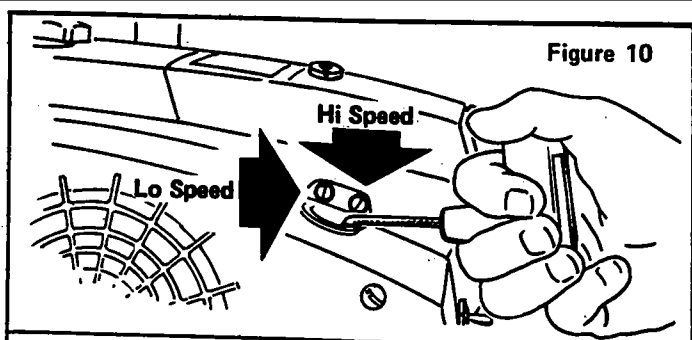

Figure 10
2. Turn the high speed and low speed mixture screws clockwise  until they stop. (Figure 10) Don't tighten them, you may damage the needle seats!